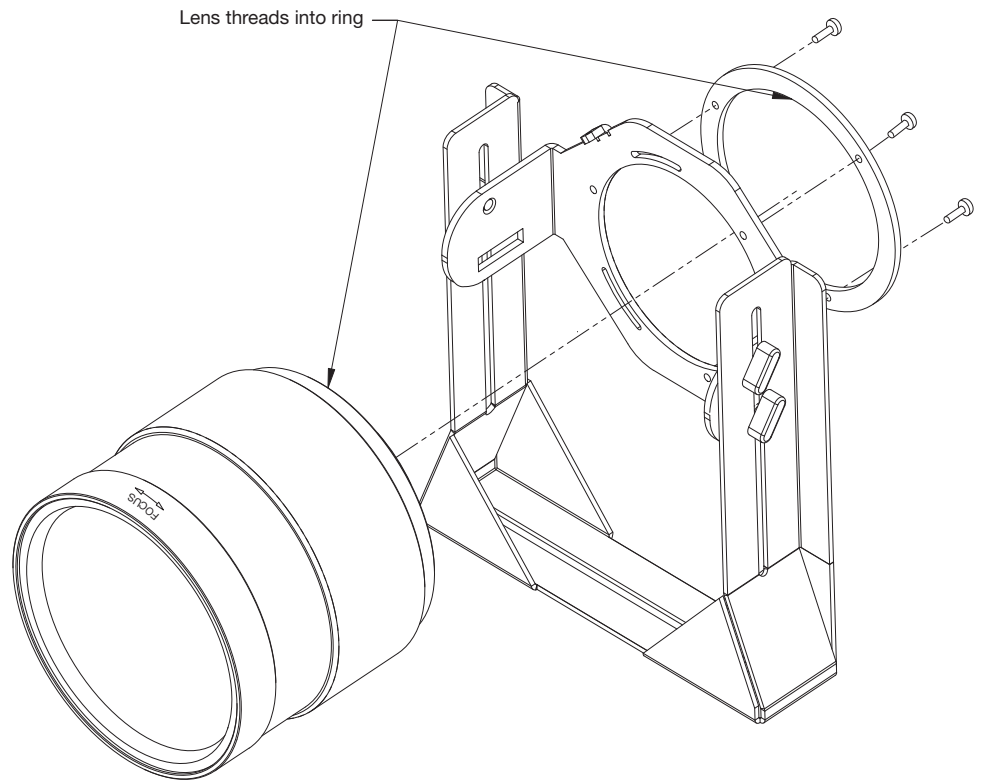

Figure 3-20. Attaching the Anamorphic Lens to the Lens Adapter Ring
4. Use the Lens Mounting Screws to attach the Lens Adapter Ring (item #1) to the Pitch Adjustment Yoke (item #2); see Figure 3-20. (Use the round, threaded holes on the yoke.)